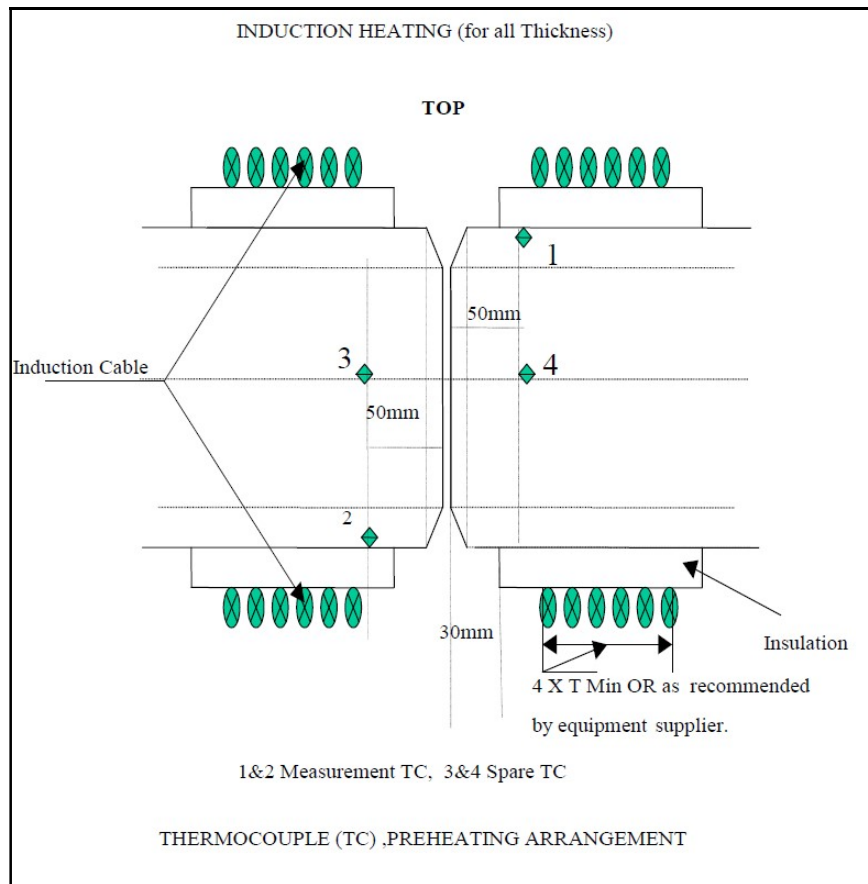
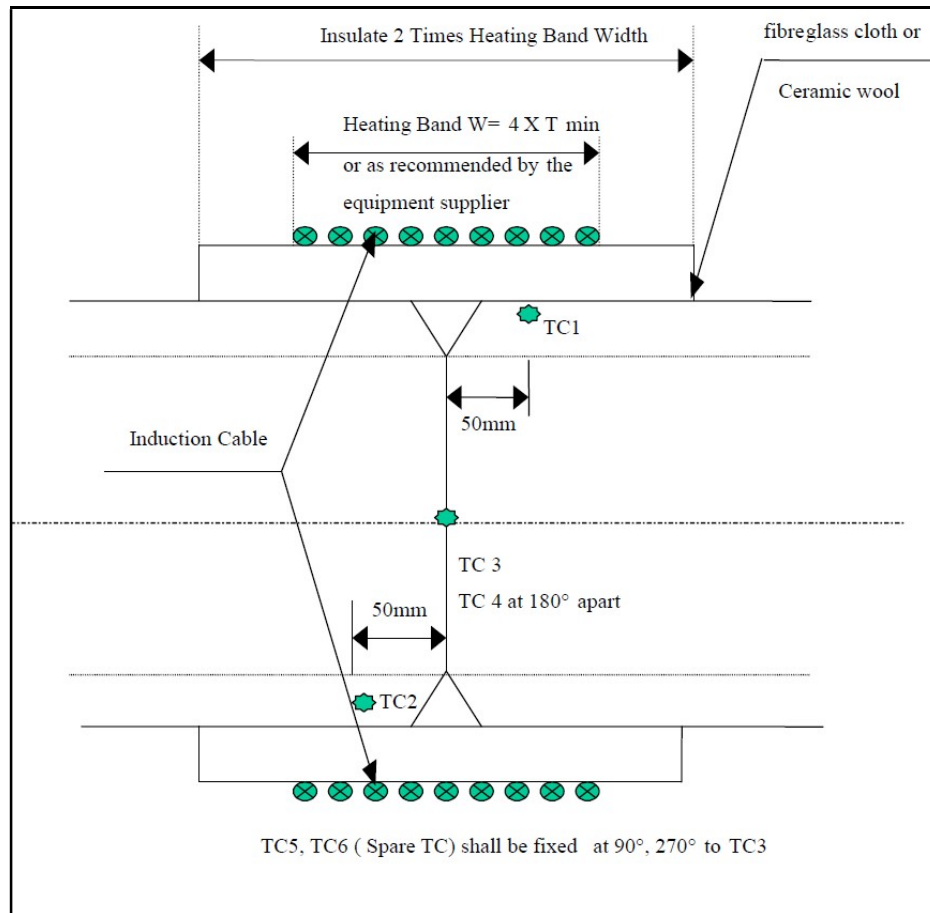

Figure 1.1: Placement of Thermocouples on P91/P92/F91/F92/C12A materials for Preheating
Figure 1.2: Placement of Thermocouples on P91/P92/F91/F92/C12A materials for PWHT
- For placement of thermocouples on P91/P92/F91/F92/C12A Figure 1.1 shall be referred for preheating and Figure 1.2 shall be referred for PWHT.
3.2.11.1 A minimum of four thermocouples shall be placed such that at least two are on the weld and the other two on the base material on either side of the weld within the heating band, 180° apart, at a distance of 50mm (approximately) from the center of the weld joint as per Figure 1.2. Two standby thermocouples shall also be provided on the weld (to be used in case of any failure of the thermocouple).
3.2.12.2 Figure 1.2 & 1.3 of this manual shall be referred for Resistance heating coil arrangement for Preheating and PWHT of T91/T92 tube assembly. **Flexible ceramic pads may also be used for carrying out PWHT of T91/T92 welds.**